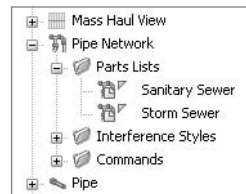

Figure A.105
3. Locate the Parts List entry under the Pipe Network tree on the Settings tab, as shown in Figure A.105.